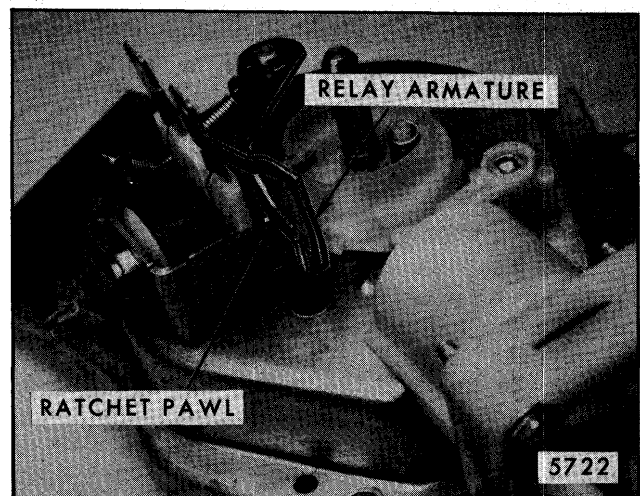

Fig. 2-62-Ratchet Pawl and Armature
Actuating the washer button to obtain windshield washer pump operation starts the wiper motor and energizes the pump relay. With the relay energized, the relay armature is pulled toward the coil, allowing the ratchet pawl to drop out of the relay armature opening and engage the teeth of the ratchet wheel. Figure 2-62 shows the pawl extending through window of relay armature.
2. The tang of the piston actuator plate is resting once more against the ramp on the lower side of the ratchet wheel (Fig. 2-62).